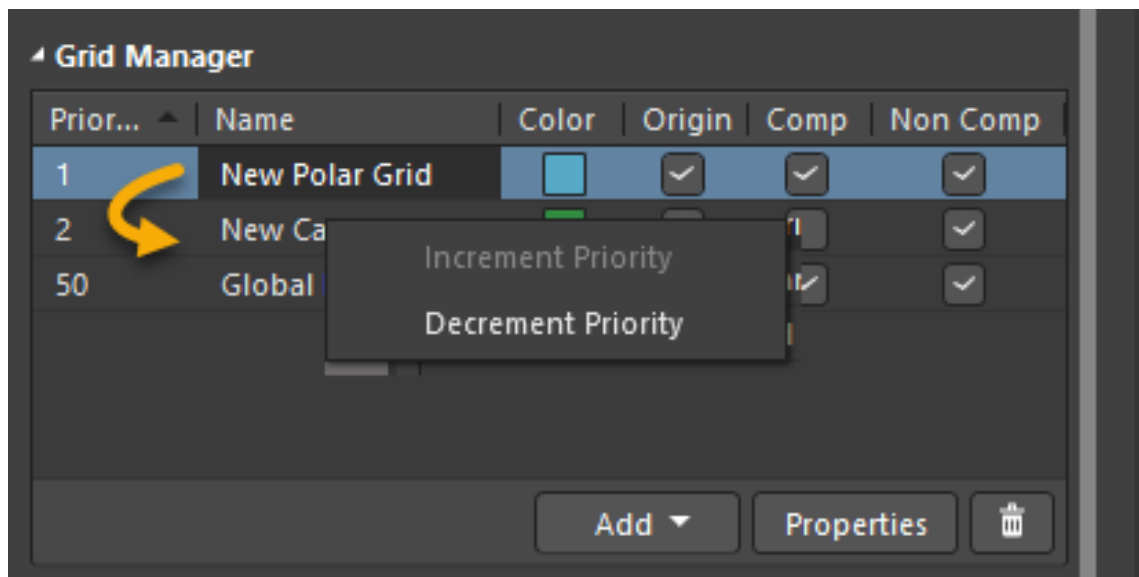

Figure 10. Priority for the Grids
34. The Grid Manager allows you to change the priority for the overlapping grids if needed as shown in Figure 10 below.